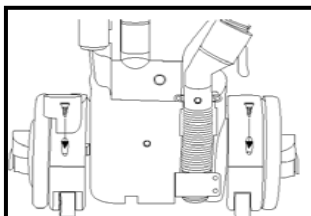

Fig. 19
2. With a Phillips #2 screw driver, remove the two screws at the top of the back of the power head. (Fig. 19)